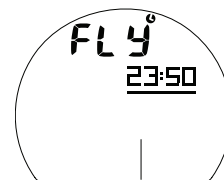

Fig. 84 - FLY (10 min after dive)
**FLY**, information includes (Fig. 84):